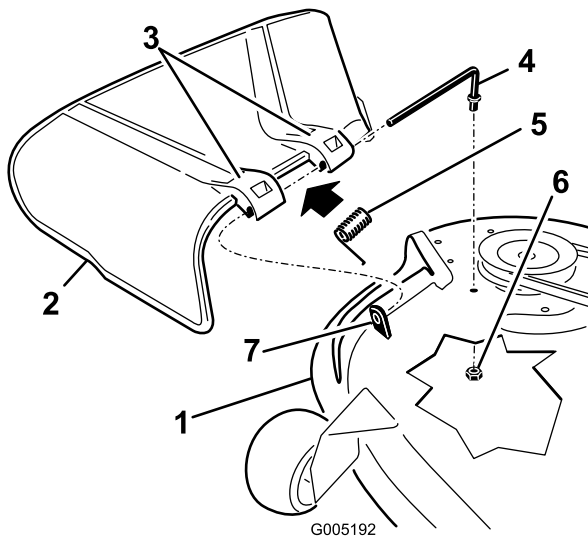

Figure 63
- Locate items shown in Figure 63.
2. Remove the nut (3/8 inch) from the rod under the mower (Figure 63).
3. Slide the rod out of the short stand-off, spring, and grass deflector (Figure 63). Remove the damaged or worn grass deflector.
4. Replace the grass deflector (Figure 63).
6. Place the spring on the rod, with end wires down, and between the grass deflector brackets. Slide rod through second grass deflector bracket (Figure 63).
7. Insert rod at front of grass deflector into short stand-off on deck. Secure rear end of rod into the mower with a nut (3/8 inch) (Figure 63).